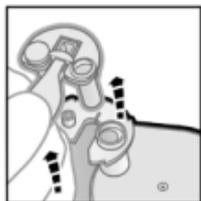

Fig. 1
2. Take the tab between your thumb and index finger whilst you hold it securely with your other hand and remove the cap from the cartridge completely. (Fig. 1)